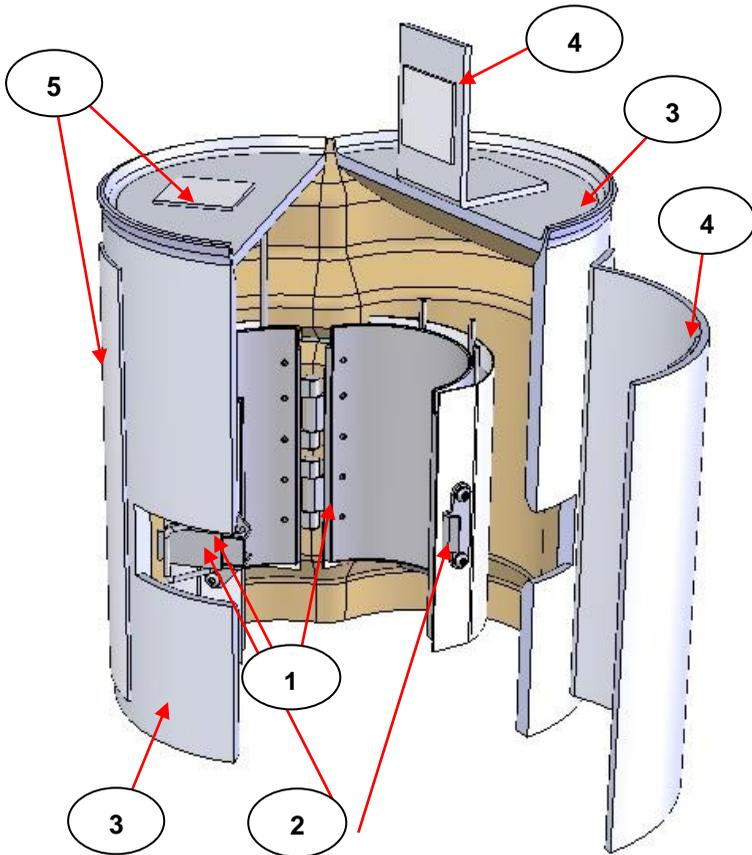

Fig 1. Atmos A5 Size Heating Jacket
The Atmos heating jacket is a twin jacket component assembly of parts. (An inner heating jacket assembly (1) and outer insulating jacket (3) - please see **Fig 1.**)
With the outer insulating jacket (3) removed, open the inner heating jacket assembly (1) (as seen in Fig 1.) by undoing the clip tab bracket (2).